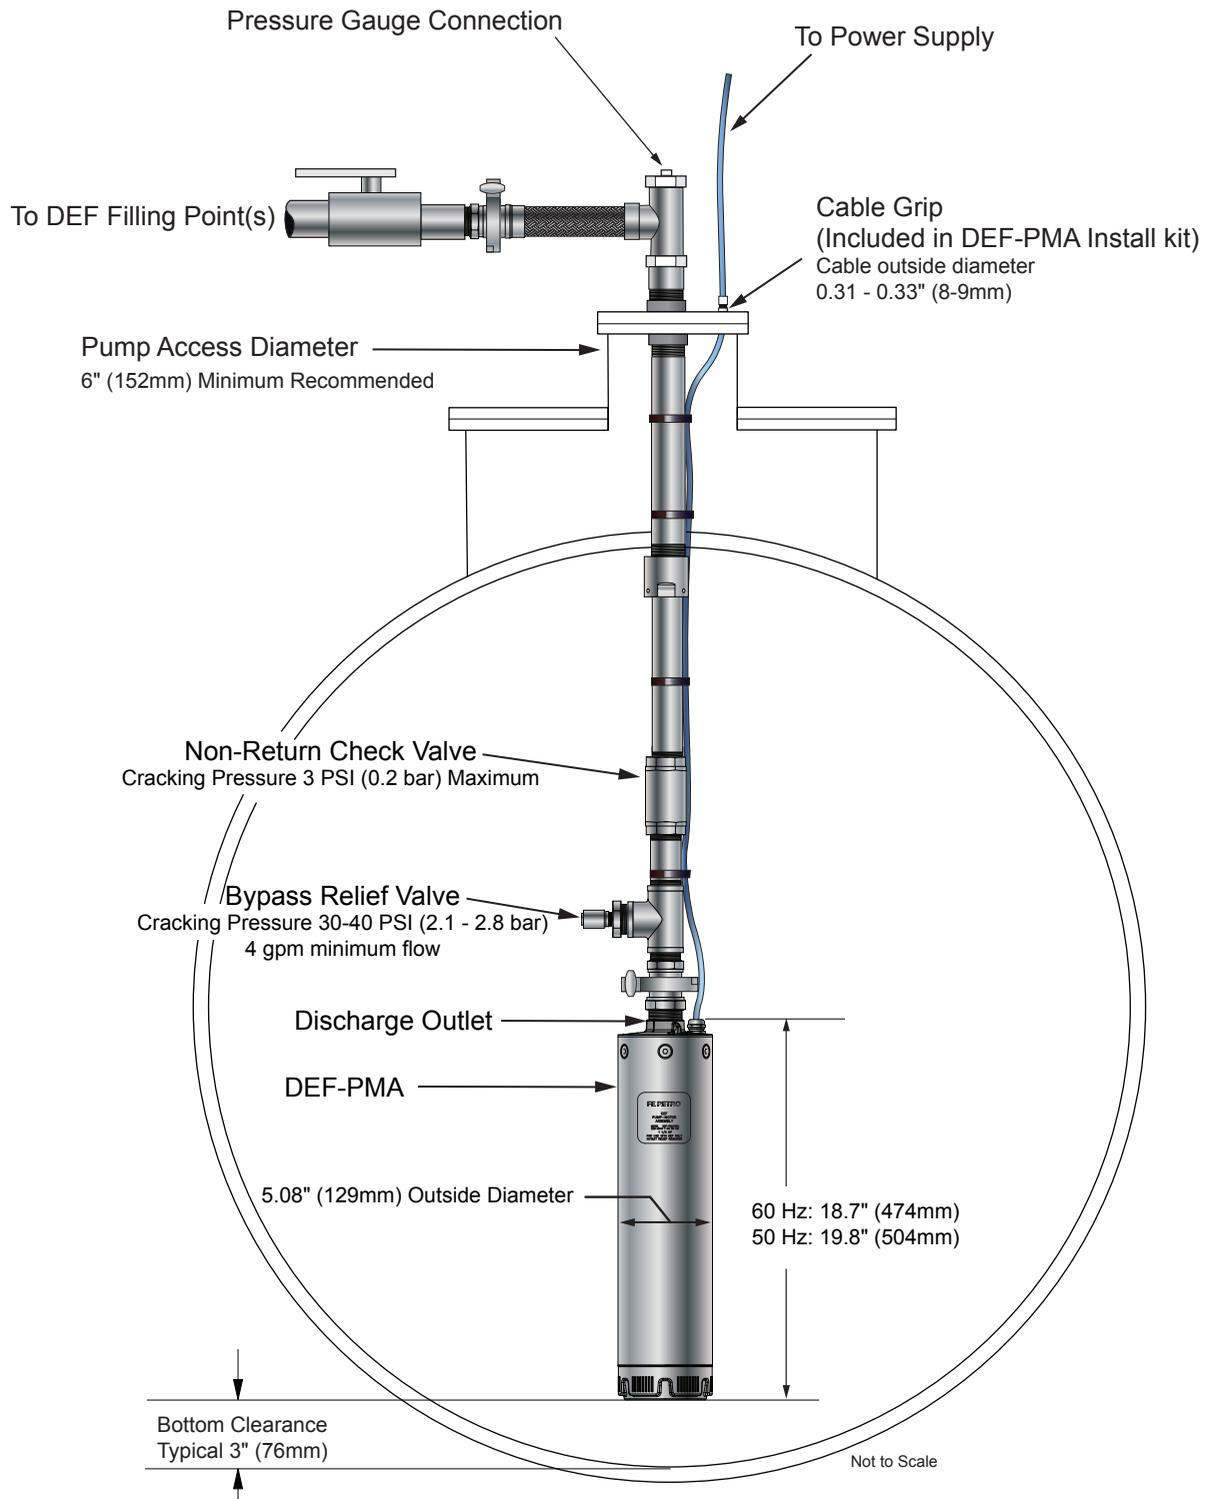

Figure 1: Typical DEF-PMA Installation
7. Make sure DEF Pump Assembly extractable has a Non-Return Check Valve and Bypass Relief Valve as specified in the "Introduction." (See Figure 1.)
10. Fasten the power cable to the DEF Pump Assembly product piping to help prevent it from being damaged when you install or extract it. (See Figure 1.)